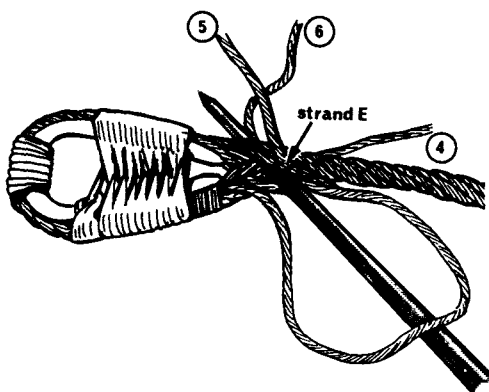

Fig 9.11 Splicing a Hard Eye (7)
- The remaining tucking strand—strand 5 in Fig 9.11—is now tucked under strand E to complete the first round of tucking.